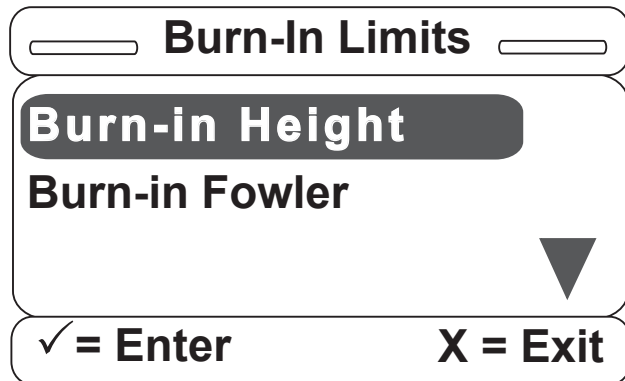

Figure S-28
26. Once the Burn-in item is selected, the screen in Figure S-28 will be displayed. The Burn-in Height item will walk the user through the burn-in height routine; and, similarly, the Burn-in Fowler item will walk the user through the burn-in fowler routine.